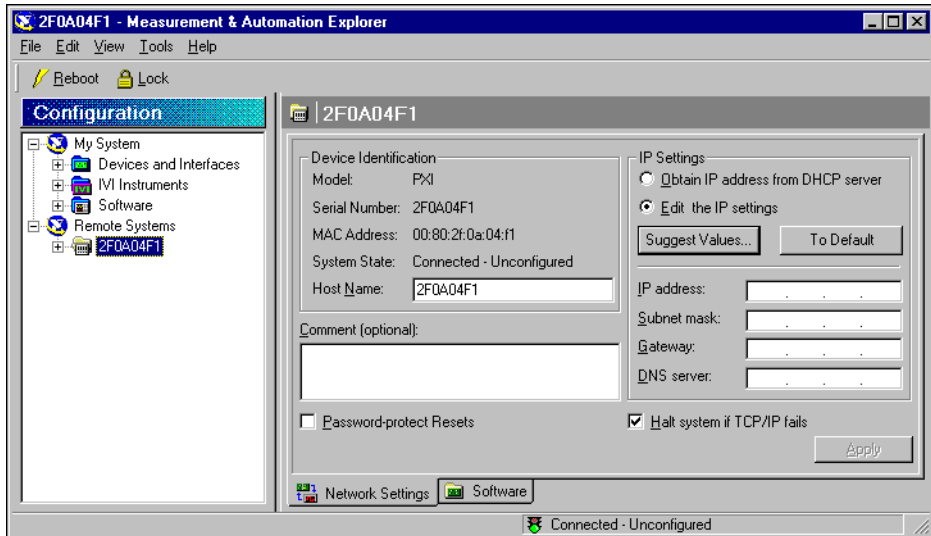

Figure C-4. Configuring the Remote System
5. Click the **Network Settings** tab at the bottom of the right pane as shown in Figure C-4.